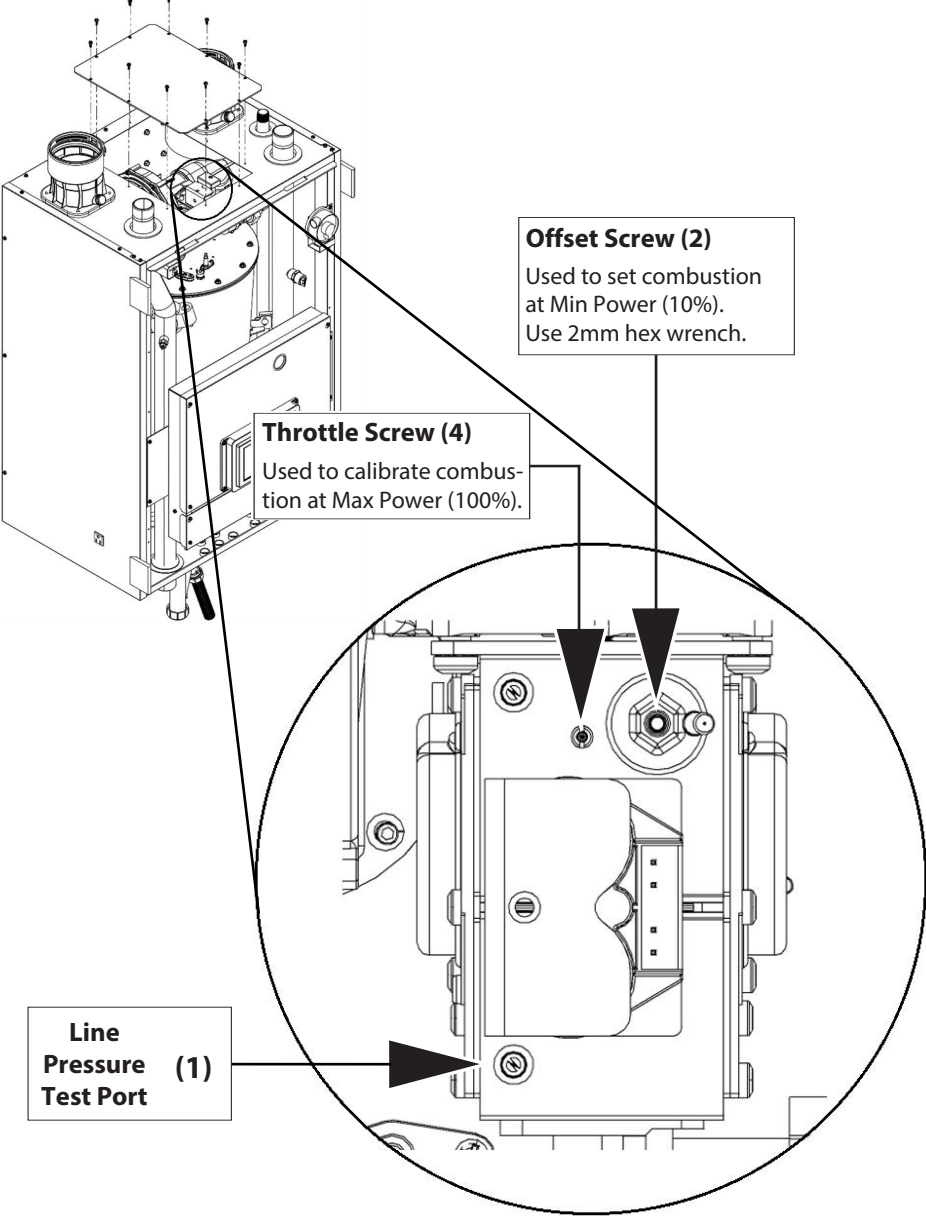

Figure 3 – Gas valve adjustment for TFTN285-399
- The boiler gas valve is equipped with a Line Pressure Test Port; see screw 1, Figure 3.
- b. Loosen screw **1 (Line Pressure Test Port)**. This port is directly connected to the gas line feeding the boiler. See screw 1, Figure 3.